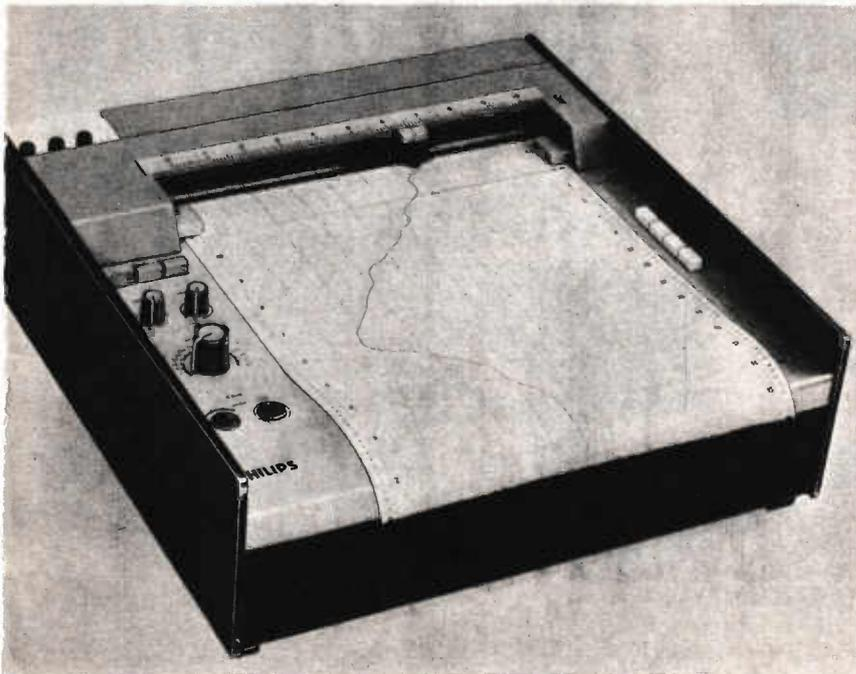

*Fig. 2. Typical strip-chart x-t recorder designed for industrial panel mounting. (Record Electrical Co.).*
**Strip-chart:—** In these recorders a continuous roll of suitably scaled paper is motor driven at constant speed past the marking head. The paper drive is usually driven by a synchronous or stepping motor as this ensures accurate paper-speed. Where mains supply is not available dc governed-motors and clockwork alternatives can be used. Chart speed changes are commonly obtained by altering gear ratios. Figure 2 shows the construction of a typical panel mounted strip-chart x-t recorder. The module shown withdrawn from the housing is the paper drive unit, the housing contains the electronic amplifier driving the pen which contacts the top of the paper when the drive unit is plugged in.